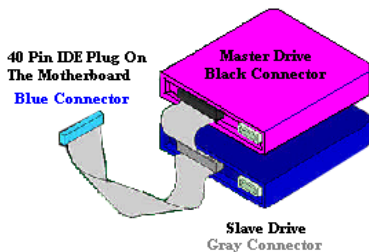

Figure 2-10. How to connect an ATA/100 Cable to the Motherboard
- Attach the BLACK connector to the mating plug on the master hard drive. Attach the GREY connector to the mating plug on the slave drive (secondary hard drive, CD ROM, or tape drive). Please refer figure 2-10.